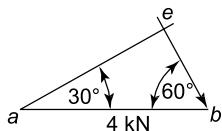
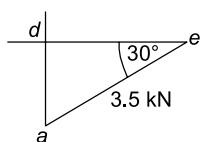
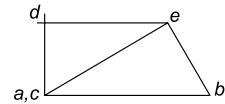

Figure 6.16
Figure 6.17
Figure 6.19
Consider joint ABE , as there are only two unknown forces here, namely the forces in the members BE and EA . Working clockwise around this joint, the vector diagram for this joint is shown in Figure 6.16.
Joint (2) cannot be considered next, as it has three unknown forces, namely H_2 , R_2 and the unknown member force DE . Hence, joint (1) must be considered next; it has two unknown forces, namely R_1 and the force in member ED . As the member AE and its direction can be obtained from Figure 6.16, it can be drawn to scale in Figure 6.17. By measurement, $de = 3 \text{ kN}$.
As R_1 is vertical, then the vector da is vertical, hence, the position d can be found in the vector diagram of Figure 6.17, where $R_1 = da$ (pointing downwards).
The complete diagram for the whole framework is shown in Figure 6.19, where it can be seen that this diagram is the sum of the vector diagrams of Figures 6.16 to 6.18.